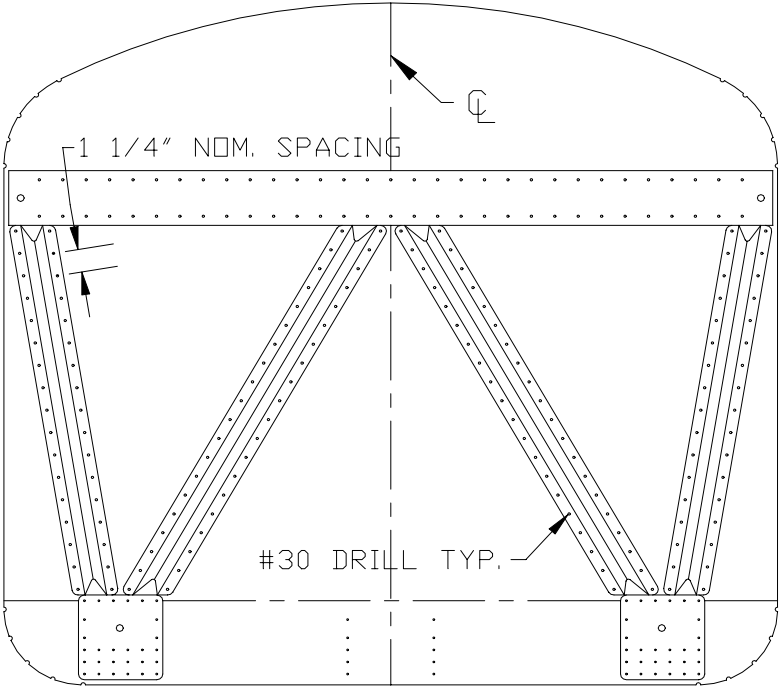

FIGURE 33
- 65) Cut four lengths of FUS-12 witches hat to fit the firewall as shown in Figure 33. Drill #30 holes with a 1 1/4" nominal spacing. **NOTE:** Cut the ends at 45 degrees for a better appearance. Rivet it place with 1/8" avex rivets. Rivet doublers in place except for top row. The top row will rivet through the floor flange later.